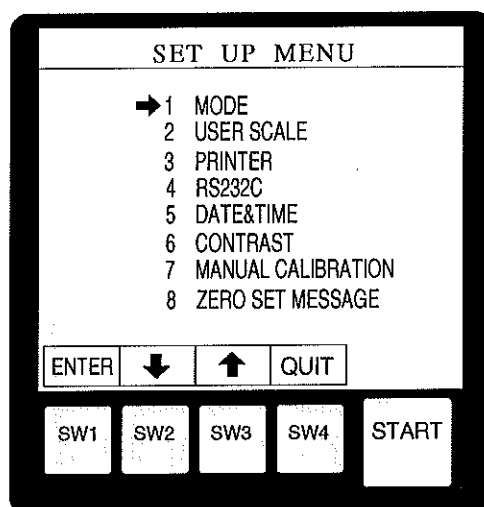

Fig.7-7
(2) SETUP MENU screen(Fig.7-7)